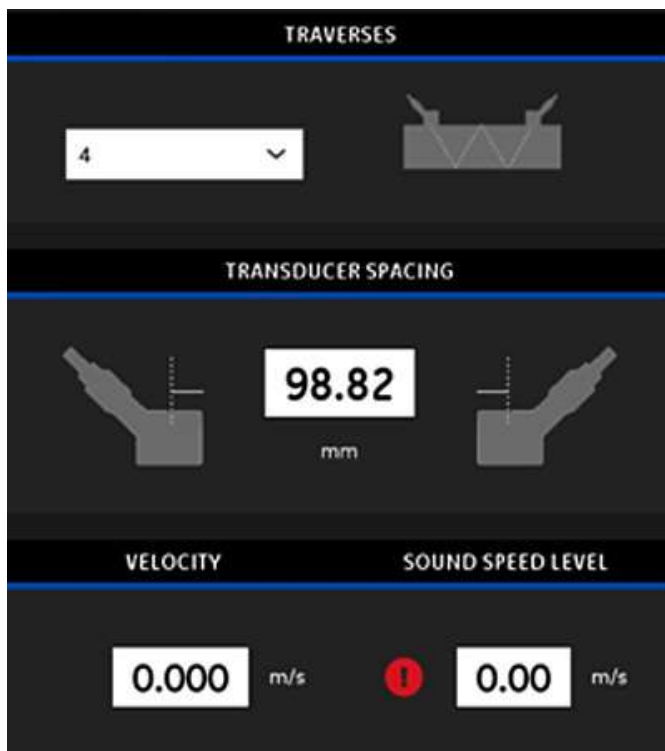

Figure 20: Transducer Spacing Value
The TRANSDUCER SPACING screen (see Figure 20 below) shows the value calculated by the PT900 for the correct distance between the upstream and downstream transducers, based on your programmed data. This value is used when installing your transducer clamping fixture on the pipe.
2. Mount the Clamp-On Fixture on the pipe (not provided) in the selected location, and set the Transducer Spacing to the value calculated by the APP (see Figure 20 on page 22).